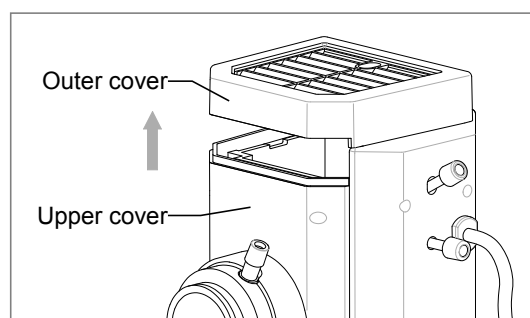

Fig. 8-8
8.4.3 Holding the outer cover and bring the upper cover up. (Fig. 8-8)